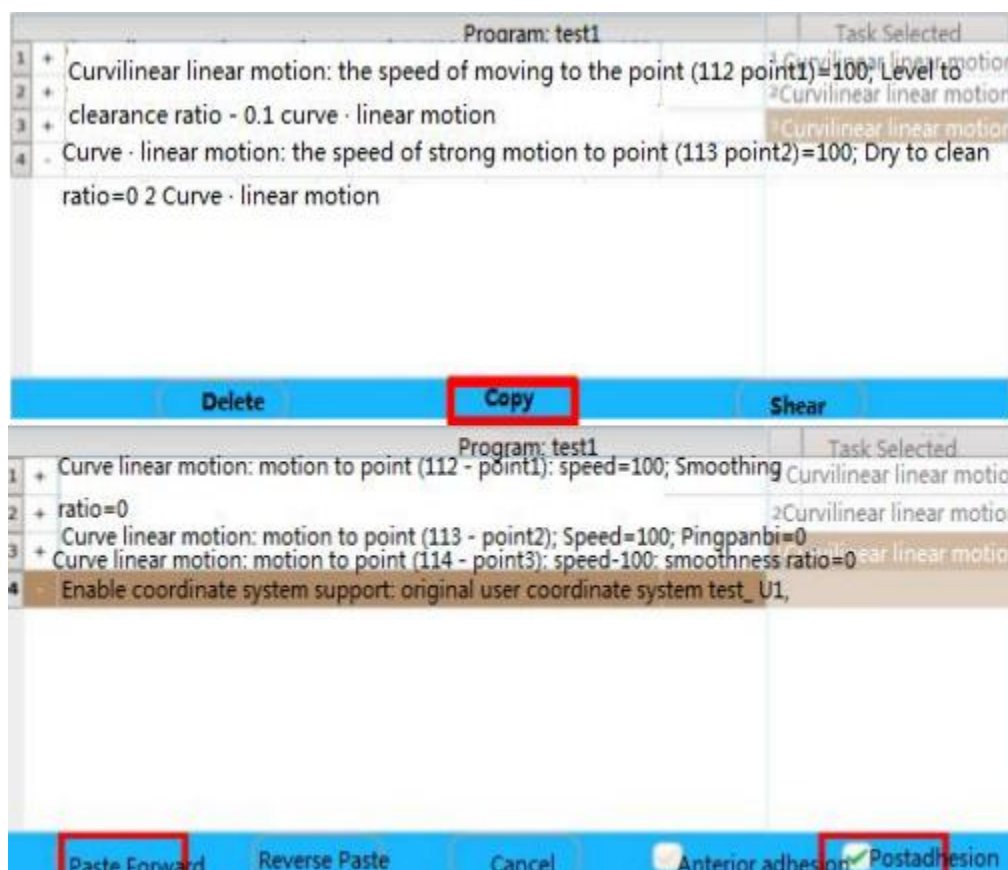

Fig. 16.5 Copying and pasting program segments
(2) To copy and paste a program section, click the program name bar to switch to the program full screen interface, as shown in Figure 16.5. Select the program to be copied ("Selected Tasks" will appear on the right), click [Copy], and then the Paste button and options will appear. Select the command line of "Enable coordinate system transformation", check "Paste after", and click the [Paste Forward] button to finish copying and pasting the program segment.
(3) When the operation on the worktable is complex and the program segment is long, the modular program can be used for programming. As shown in figure.
(4) As shown in 16.6, teaching the new program test123 on a worktable, and then calling the subprogram between the "coordinate system transformation" command pairs of the modular program can quickly complete the multi worktable pipeline programming.